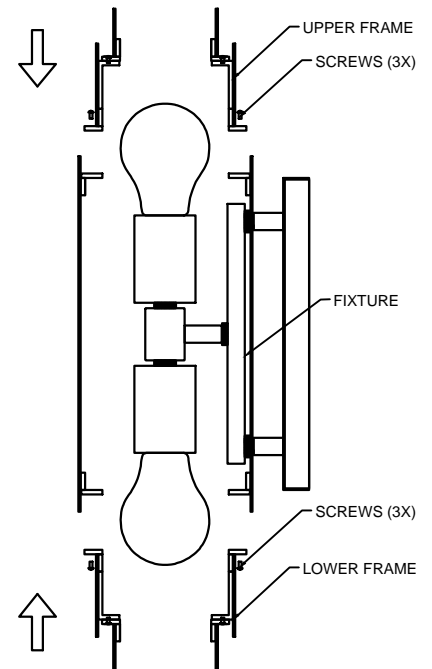

FIGURE-03
7. Attach the upper and lower frame to the fixture and secure them with screw. (See Figure-03)